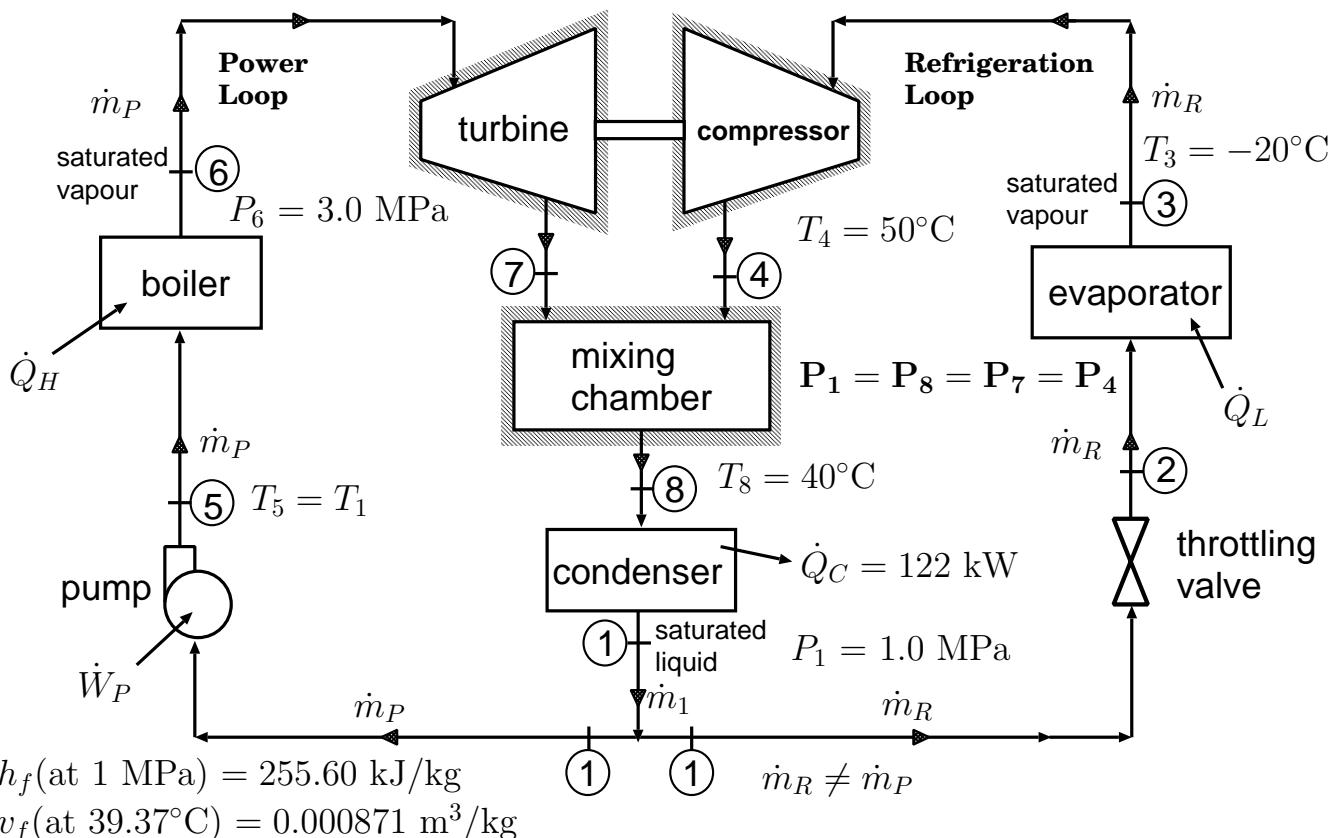

Figure 3: Figure for problem 4
29. 4. A dual loop heat-powered refrigeration cycle that uses **R-134a** (Refrigerant 134a) as the working fluid is shown in Figure 3. Saturated vapour at 3.0 MPa leaves the boiler and expands in the adiabatic turbine. The flow leaves the turbine at the condenser pressure (the condenser pressure is P_1). Saturated vapour at -20°C leaves the evaporator, enters the adiabatic compressor, and is compressed to the condenser pressure and a temperature of 50°C . The ratio of mass flows through the two loops is such that the turbine produces just enough power to drive the compressor. The two streams exiting from the turbine and the compressor are mixed together in an insulated mixing chamber; the stream leaving the mixing chamber is at a temperature of 40°C . The rate of heat transferred from the condenser is 122 kW . The stream leaving the condenser is saturated liquid at 1.0 MPa; this stream is then separated into two streams in the necessary proportions. Neglect changes in potential and kinetic energies.